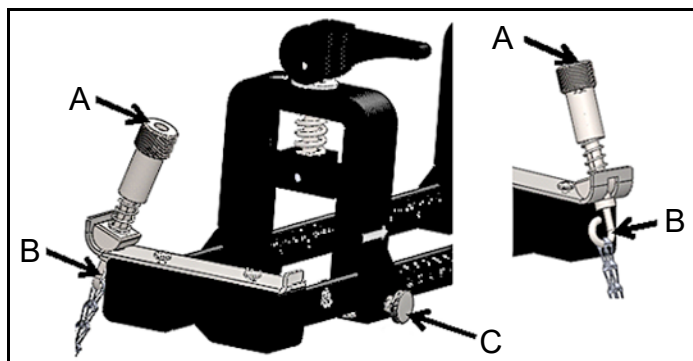

Figure 8: Bracket Preliminary Setup
1. Before mounting the clamp-on fixture, refer to *Figure 8 on page 10* and proceed as follows: